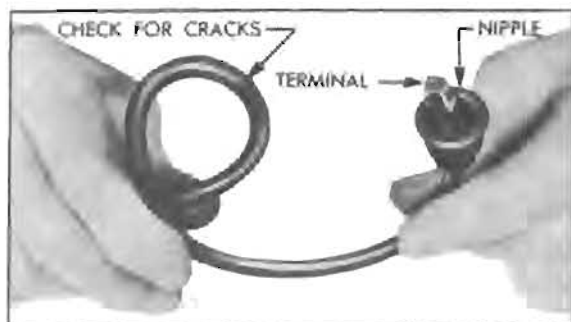

Figure 10-62—Inspection of Ignition Cable
2. Wipe ignition cables with cloth moistened with kerosene, and wipe dry. Bend cables to check for brittle, cracked, or loose insulation. See figure 10-62. Defective insulation will permit missing or cross-firing of engine, therefore defective cables should be replaced.